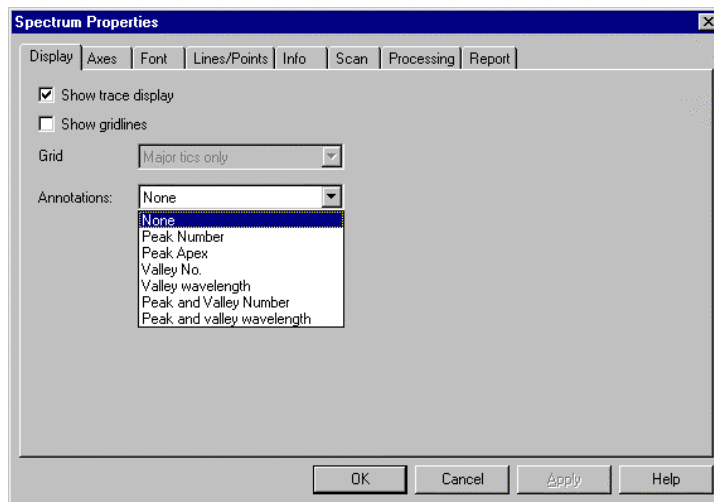

Fig. 6-9 Display Tab
Select the Properties (O) command from the Edit (E) menu or click the  (properties) button on the Processing toolbar. The window in Fig. 6-9 will open.